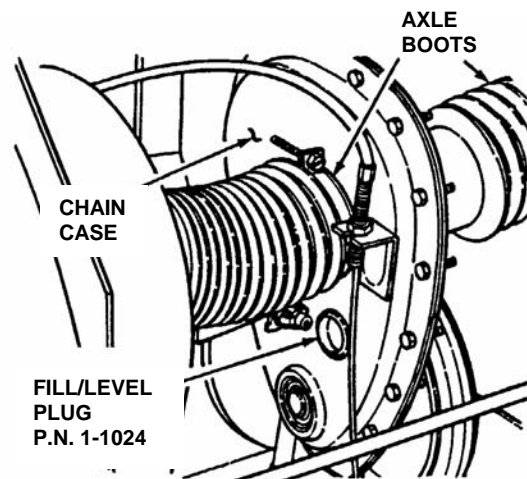

FIGURE 3.9
3. Check fill/level plug for damage. If signs of wear or cracks are visible, replace plug with new plug. See Figure 3.9.
4. To check lubricant in chain case, remove fill/level plug and look for lubricant on the internal components of the chain case. If no lubricant is visible, add SNAPPER transmission grease as needed. See Figure 3.9.